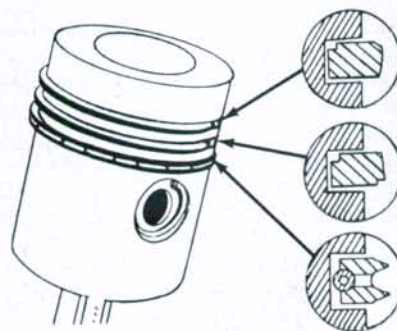

Fig. 101—Drawing of late production A4.248 three-ring piston showing correct installation of piston rings.
On late Model A4.248 engines with three rings, the molybdenum top compression ring (Fig. 101) is barrel faced
Fig. 100—Drawing of pistons with cross section of piston rings. Production rings for A4.236 engines are shown at (P) and service rings (used with worn sleeves) are shown at (S). Early production A4.248 four-ring piston is also shown. Refer to Fig. 101 for late production three-ring piston used on A4.248 engine.